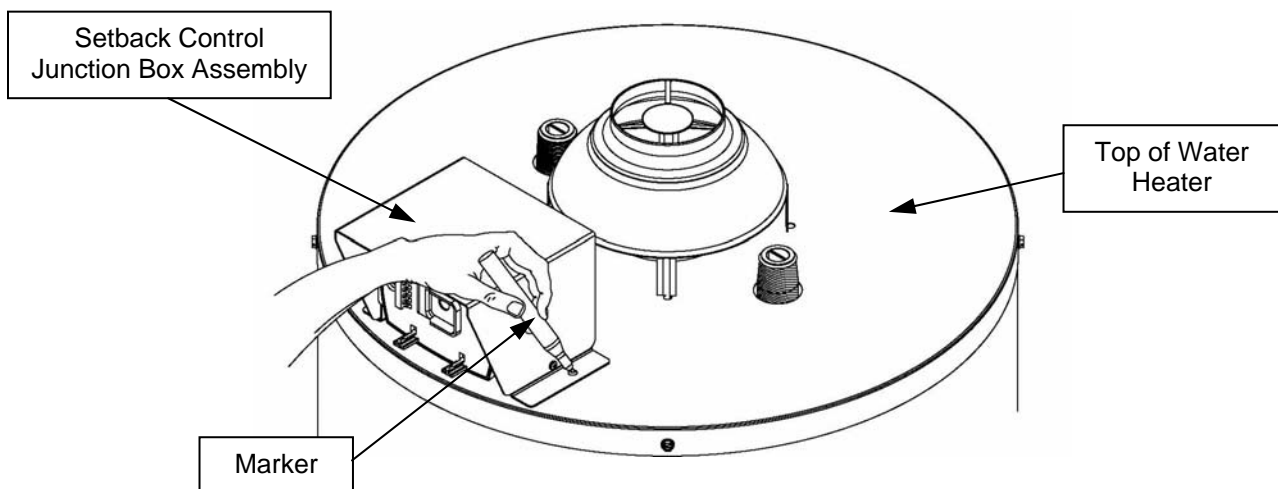

Figure 35
Step 8: Using a marker, mark the location of both holes in the Setback Control Junction Box Assembly. This is shown in Figure 35.